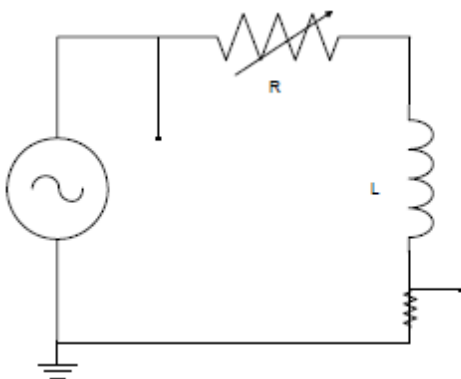

Figure 2. The experimental RL circuit. $L=100\ \text{mH}$.
4. (a) Construct the circuit of Figure 2. Set the source to the same values as in the previous circuit.